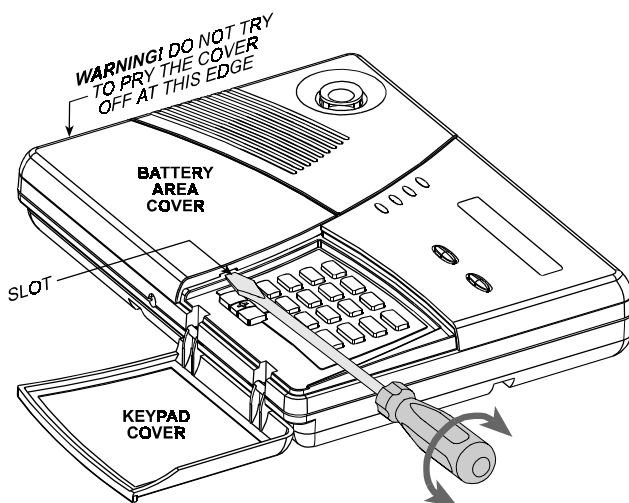

Figure 1. Prying the Cover Loose
**A.** Insert a screwdriver into the slot shown in Figure 1.